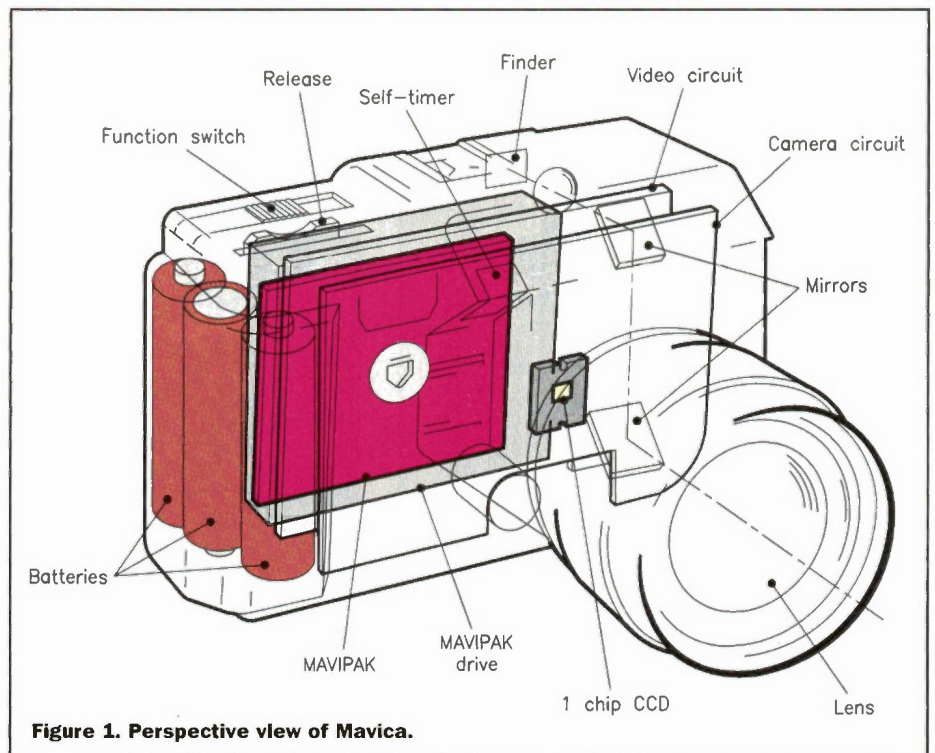

Figure 1. Perspective view of Mavica.
Like almost everything digital, its roots lie in the analogue domain. In August 1981, Sony announced its prototype Mavica (magnetic video camera), which had a CCD image sensor and a reusable 50mm floppy magnetic disk called Mavipak that could record 50 analogue colour images. As Figure 1 shows, the still video (SV) camera was similar to a conventional single lens reflex model, but with a CCD in the focal plane and the Mavipak slotting into place behind it. The horizontal resolution was 350 lines (VHS is 260); and it could be switched between single image